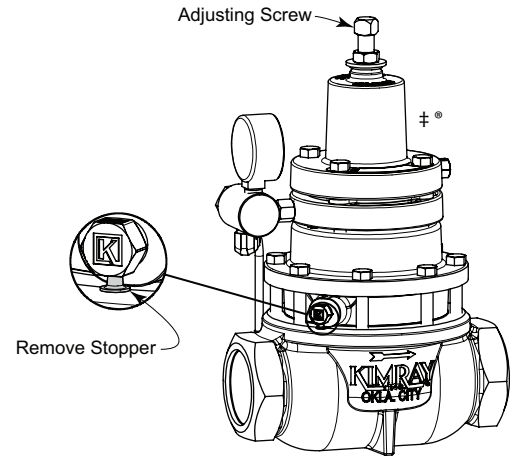

Figure 1
4. Back Pressure Regulator & Differential Regulator: Remove the stopper after the regulator is installed. The plug prevents the oil from leaking out of the regulator during shipment and installation. See figure 1.